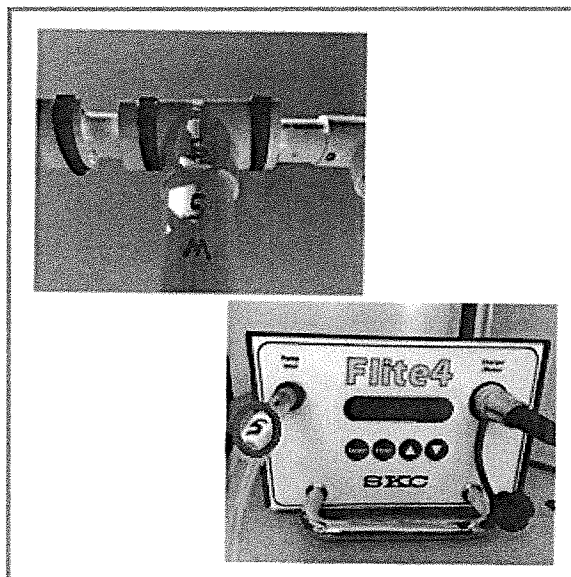

Figure 3: Identifying which sampling port to use.
- 3.1.1.1 Identify the sampling port that is connected to the Flite4 Pump. **Tip:** *The number taped on the flexible tubing attached to the inlet hosetail (see Figure 1 to identify inlet hosetail) should match the number on the channel (Figure 3).*